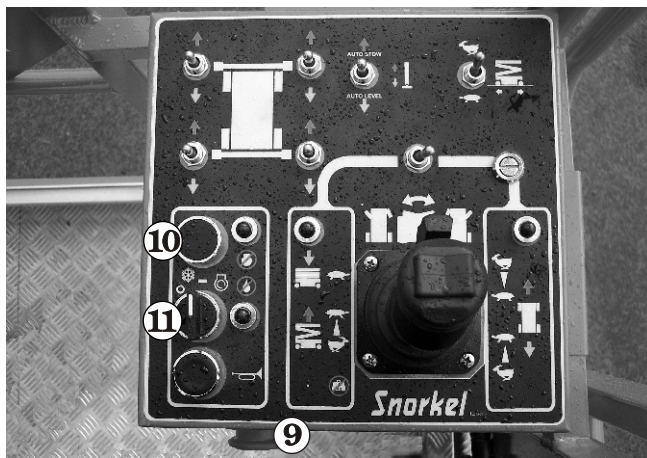

Figure 8.14
7. Turn the **Emergency Stop** switch **9** clockwise and it will pop out (on) (see Figure 8.14).
8. If the engine is cold, press and hold the **Choke** switch **10** (see Figure 8.14) during the next step.
9. Turn and hold the **Start** switch **11** clockwise (to the start position) until the engine starts or for 20 seconds, whichever comes first. When the engine starts, release both the start switch **11** and the choke switch **10** (see Figure 8.14).